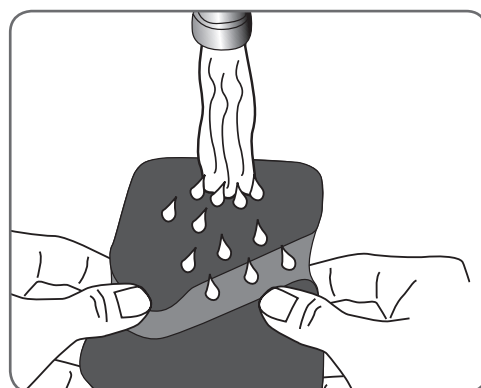

Figure 8-4: Wetting the large cloth electrode.
2. Wet the entire large cloth electrode with water. See Figure 8-4.